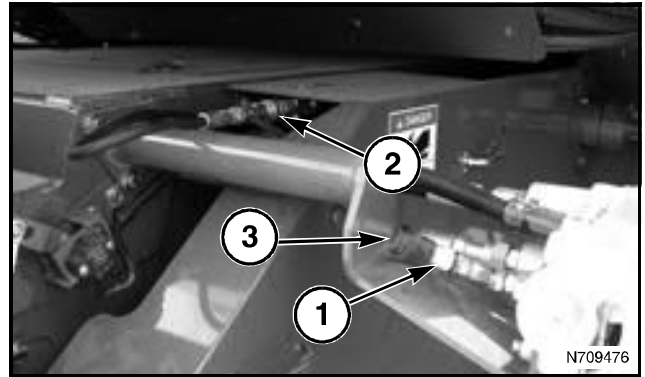

FIG. 9
FIG. 9: Transverse Machine - If a corn head is going to be attached to the machine, disconnect the reel lift quick coupler from the reel lift fitting (1). Connect the female quick coupler to the male coupler (2) for the header variable speed sheave. Install the dust cap (3) onto the reel lift fitting.